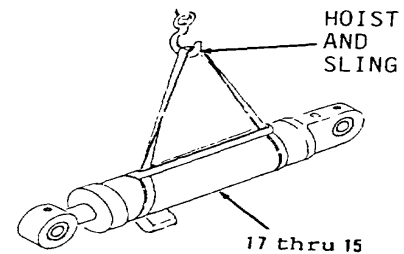

Figure 5-109.
2. Install four new seals (15) with lips facing outward.
4. Position items 17 thru 15 as an assembly (Figure 5-109) on right side, front axle of vehicle.